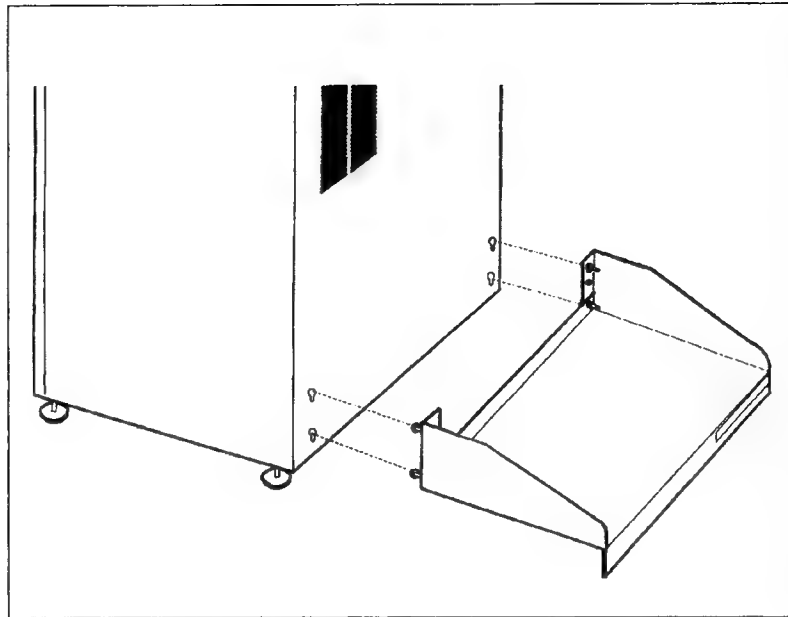

Figure 2-15. Attaching the Paper Tray
- b. Insert the screws into the key slots. Align the screws to the holes in the back panel of the printer and insert into the key slots. Drop into place (Figure 2-15).